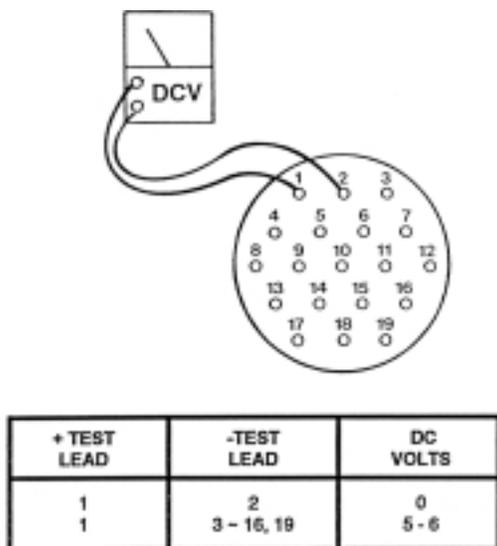

Figure 5-4. Table Base Connector
3. Use a DC voltmeter 10V scale and measure the following pins located in the 19 pin table base connector. See figure 5-4.
3. Using a DC voltmeter, measure the voltage between pin 1(+) and pins 4 through 19(-) of the table base connector. See figure 5-4. Meter should read 5-6 volts.